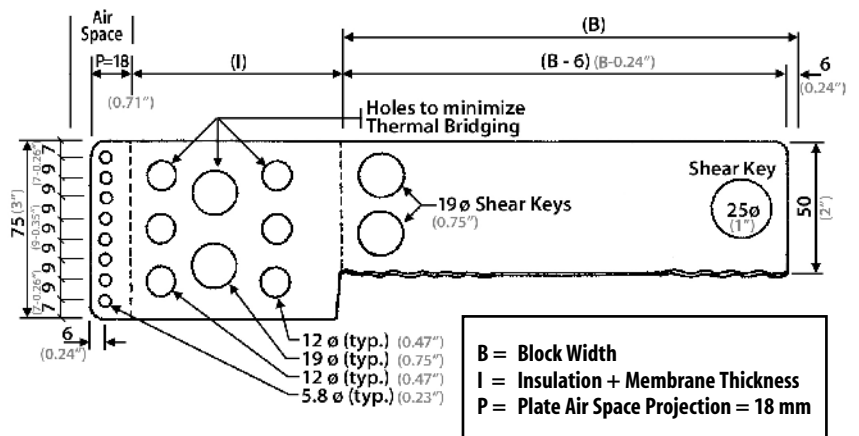
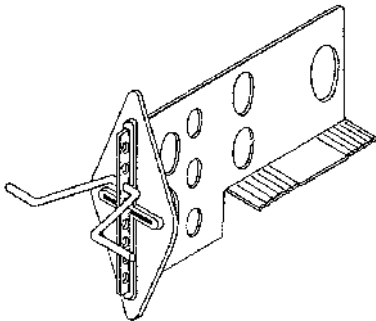
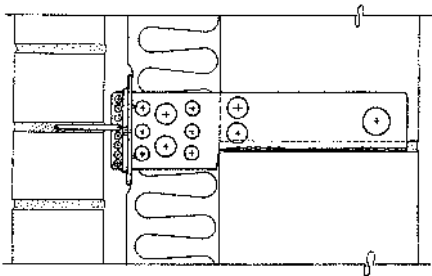

Figure 1 Block Shear™ Connector Plate
Figure 4
Figure 5
The Block Shear™ Connector consists of a Block Plate, a V-Tie™, and an Insulation Support. Individual components are shown in Figures 1, 2 and 3; the assembly is shown in Figure 4; and the installed tie system is illustrated in Figures 5 and 6.
The Block Shear™ Connector is embedded directly in a mortared head joint of the interior concrete block masonry wythe (*Cover Illustration, and Figure 5*). The V-Tie™ is inserted through the appropriate hole along the outboard end of the Block Shear™ Connector. Direct embedment of the Block Plate in the concrete masonry inner wythe offers positive connection, reduced connector free play and deflection, increased connectors strength, elimination of fasteners, and increased mason productivity. The holes along the outboard end of the Plate provide a positive connection between Block Plate and V-Tie™, without the possibility of V-Tie™ disengagement during construction and in-service, and permits up to 63 mm (2.5") of in-situ vertical adjustment so that a bed joint in the exterior masonry wythe will always be coincident with the V-Tie™
Block Plate: The Block Plate (Figure 1) is manufactured from 16 gauge sheet steel [1.367 mm (0.0538") minimum base steel thickness] and is available in both hot-dip galvanized finish and stainless steel.
The Block Plate specification length, (B), refers to the actual width of the concrete block masonry unit into which the Plate is embedded (*Figures 1 and 5*); the specification length, (I), refers to the actual thickness of the insulation plus membrane; and the length, (P), refers to the length of projection of the Block Shear™ Connector into the air space.